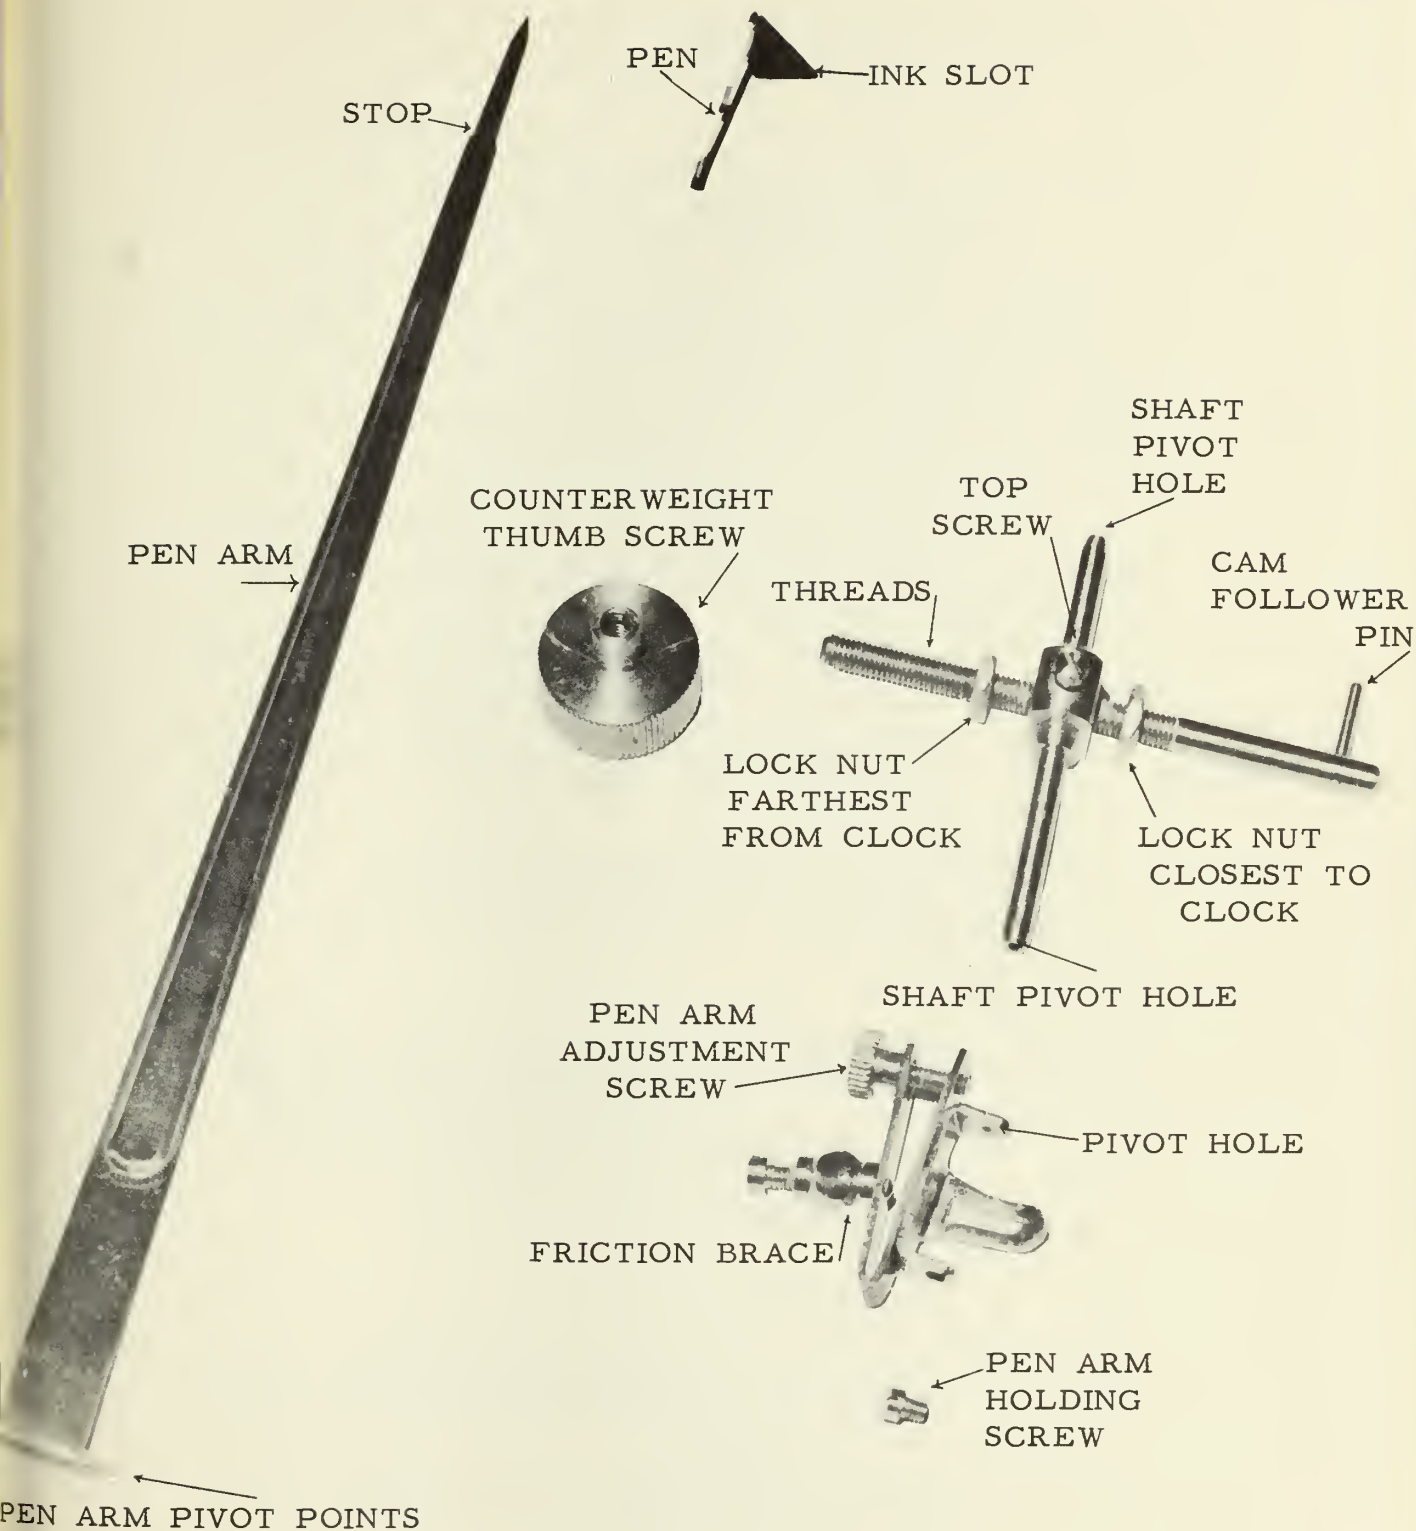

Figure 7.--Types A and B. Pen arm- - cam follower shaft, detail of parts.
22. Pen arm and cam follower shaft (fig. 7):
26. Pen arm adjustment (fig. 7):